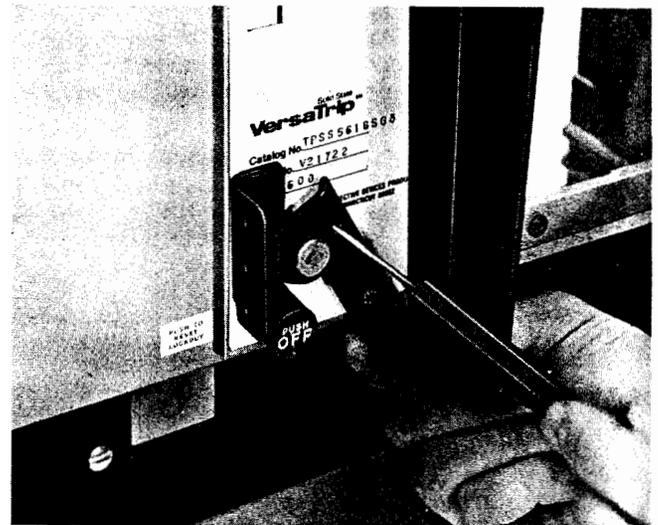

FIG. 44
2. To defeat while breaker is "ON" or "CHARGED", depress spring and rotate to clear door. (Fig. 44).